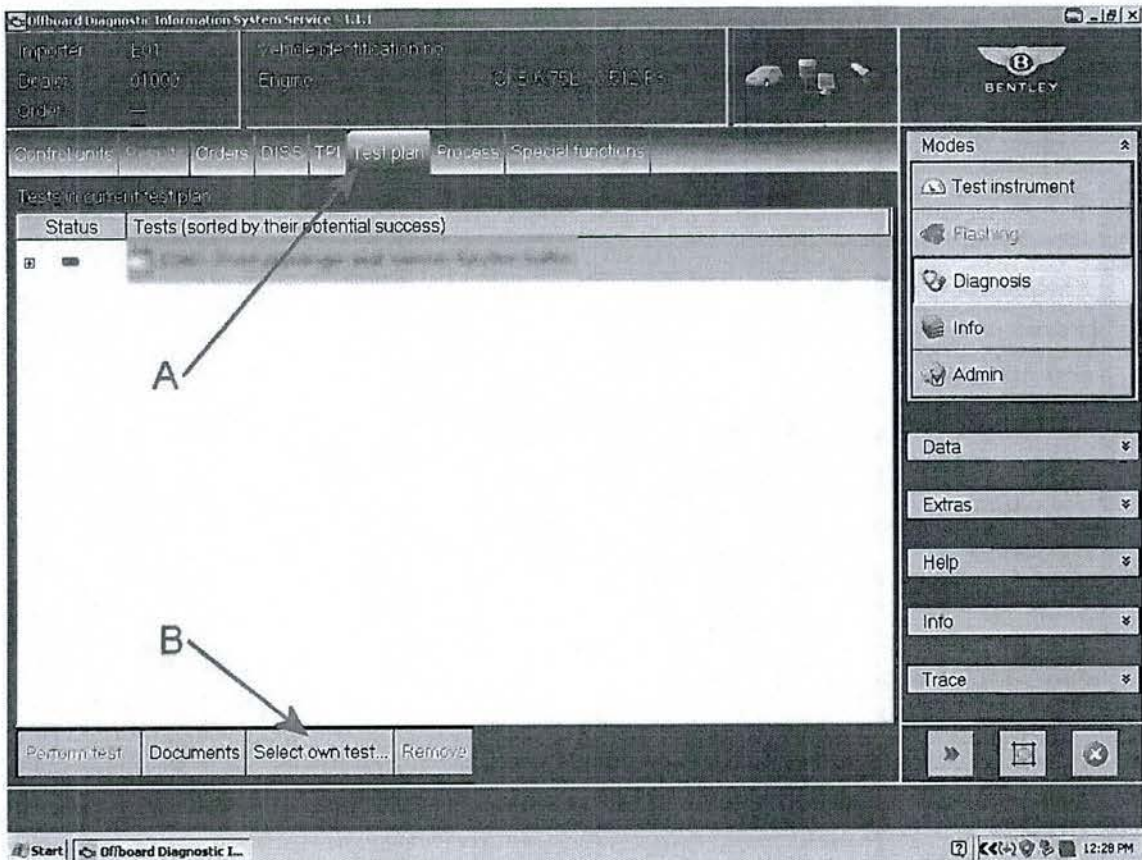
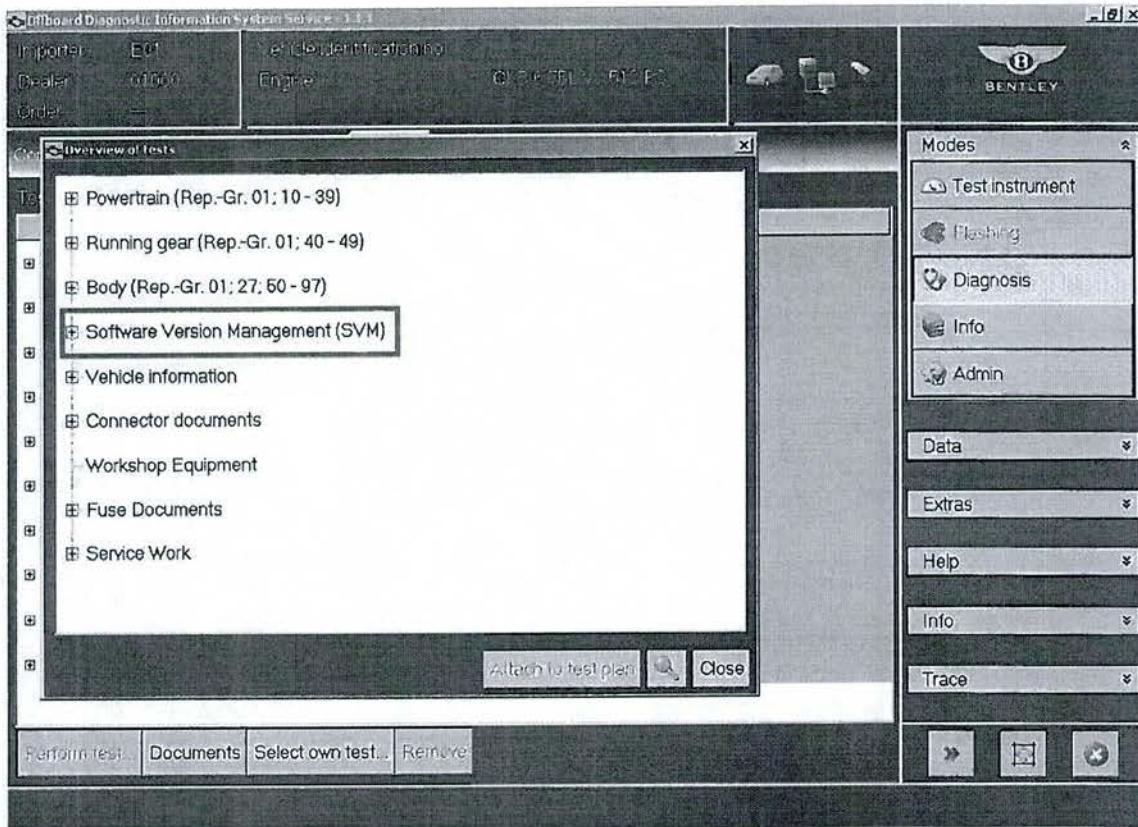

Figure 5
Figure 6
7. Once Guided Fault Finding is complete, Select - Test plan as shown in Figure 5 point A - Select own test as shown in Figure 5 point B, (the overview of tests screen will now appear as shown in Figure 6)
- Referring to Figure 6 - Select +Software Version Management (SVM) a dropdown menu will now appear